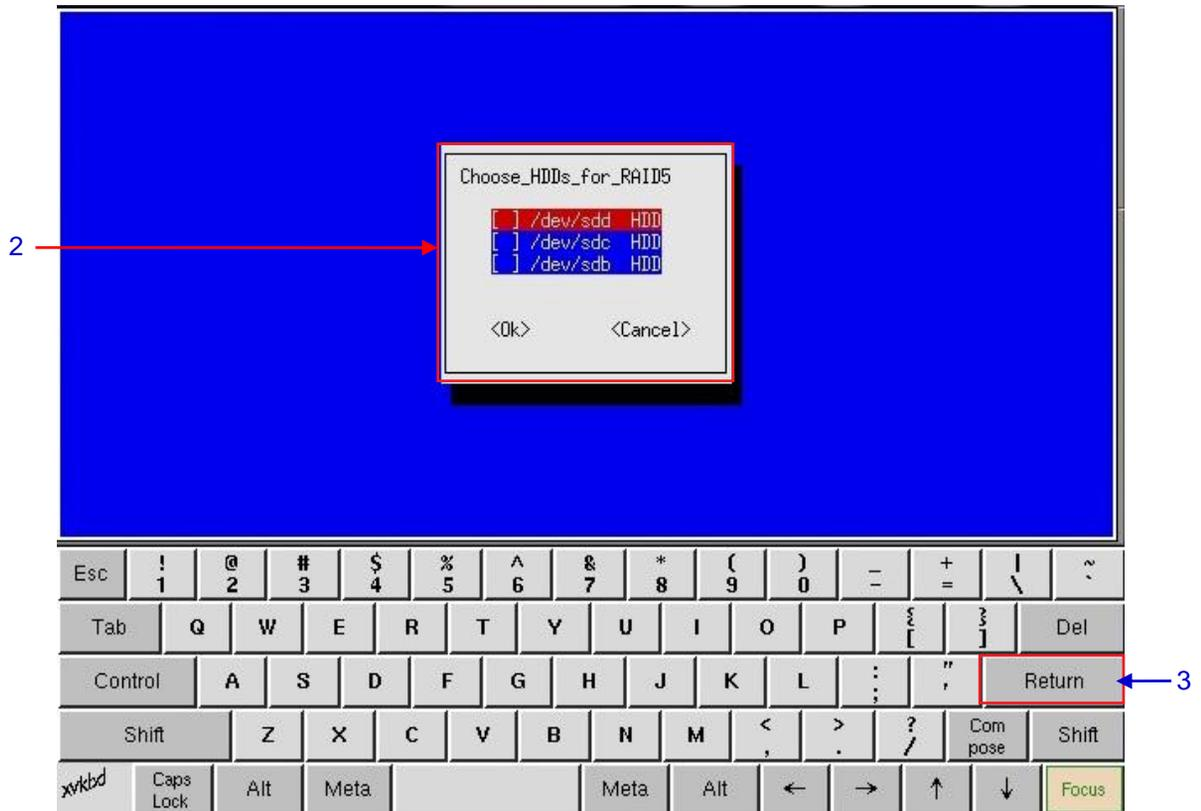

Figure 77 Selecting HDD for RAID.
- 1 Select **Create new RAID array**. A new window appears as seen in **Figure 77**.